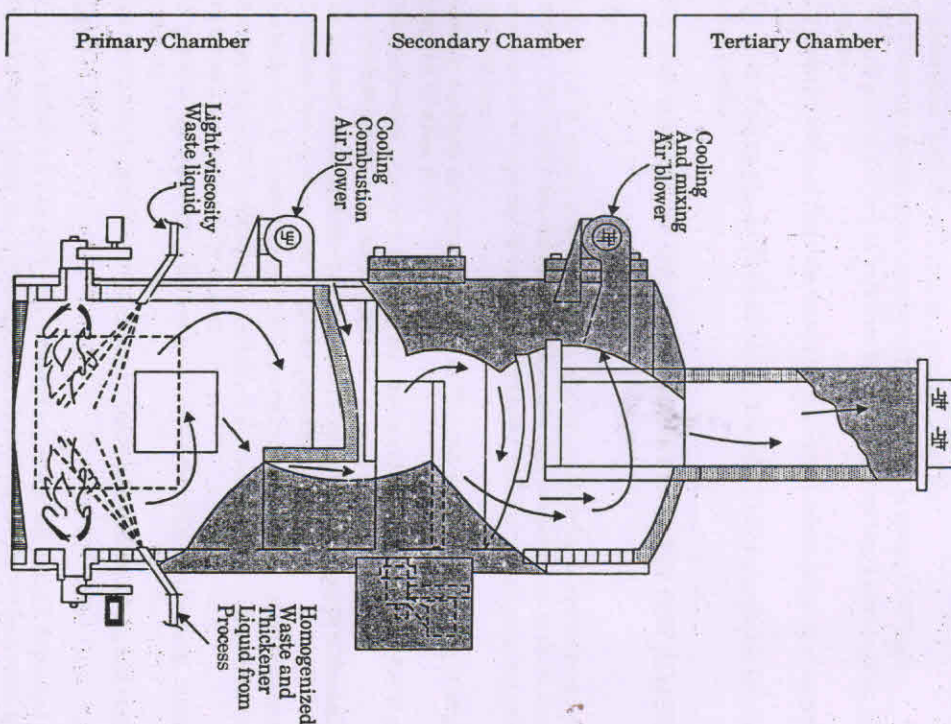

Fig. 9.9. Liquid-waste and sludge incinerator uses atomizing nozzles to inject waste into primary combustion chamber.
5. Waste Heat Boiler with Dual Combustion Chamber. Solid wastes are most commonly burned in dual chamber as shown in Fig. 9.9. A ram type feeder injects the waste into primary combustion chamber where the material is reduced to inert ash weighing approximately 5% of the initial charge. Entrained particulates and gases pass into the secondary combustion chamber where they are burned.